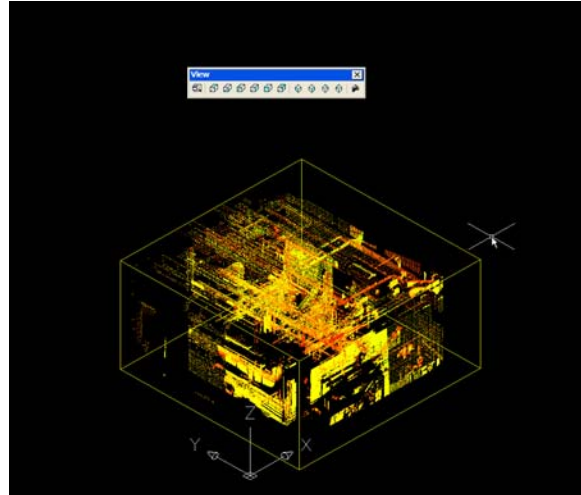

Figure 4.
6. Points outside the boundaries of the box are hidden from view; your screen should resemble *Figure 4*.